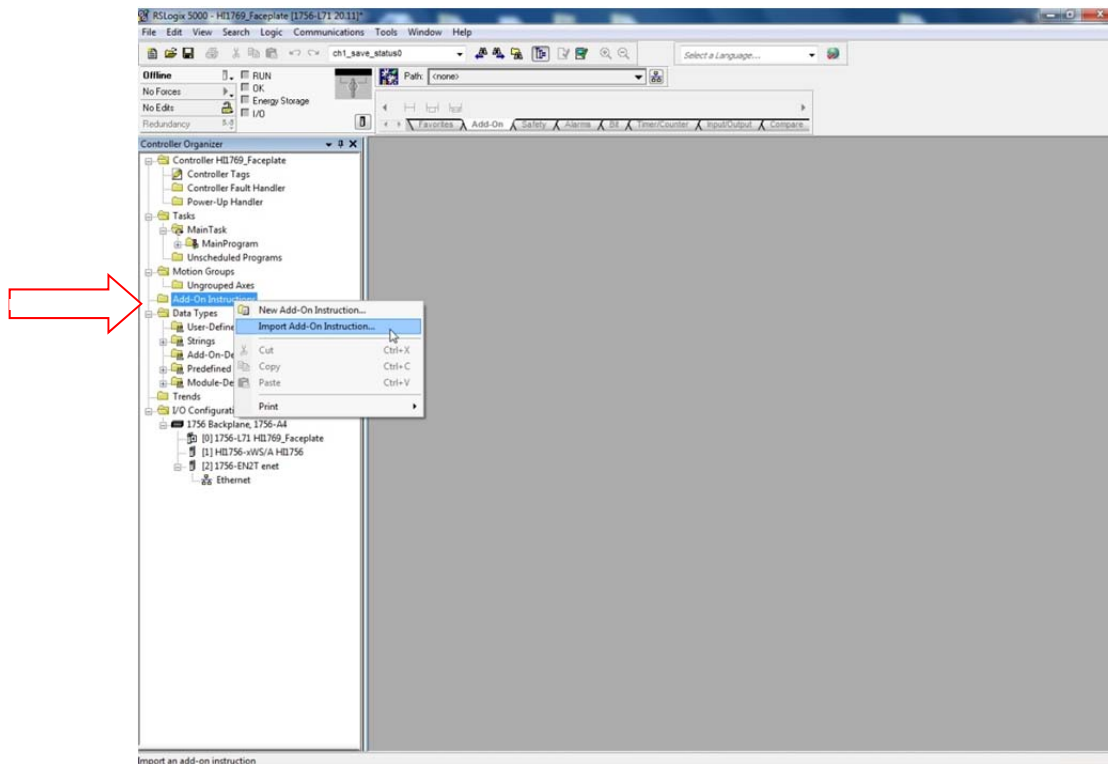

Figure 1
- Import the HI1756WS_AOI. See Figure 1